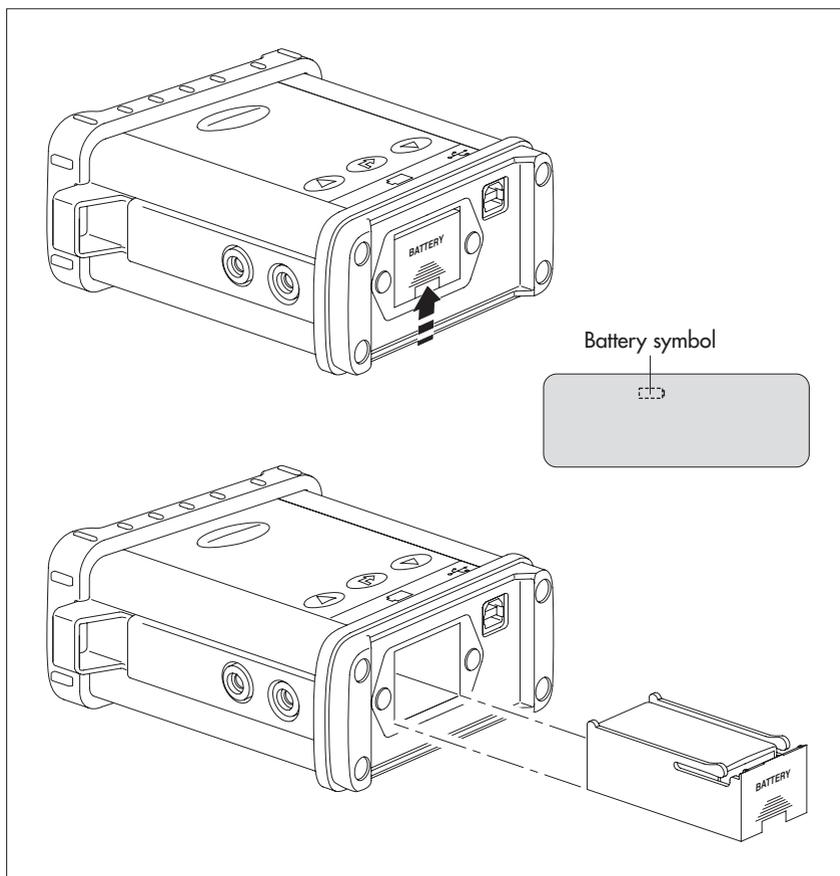

Fig. 2: Replacing 9 V battery for the Z400. The LCD display shows a blinking battery symbol.
- Open the battery compartment as shown in Figure 2 and replace the exhausted battery with a charged battery of the same type.